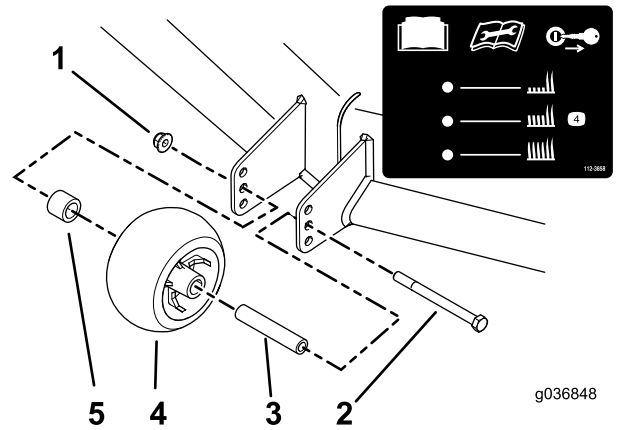

Figure 34
3. Adjust the anti-scalp rollers as shown in Figure 34.